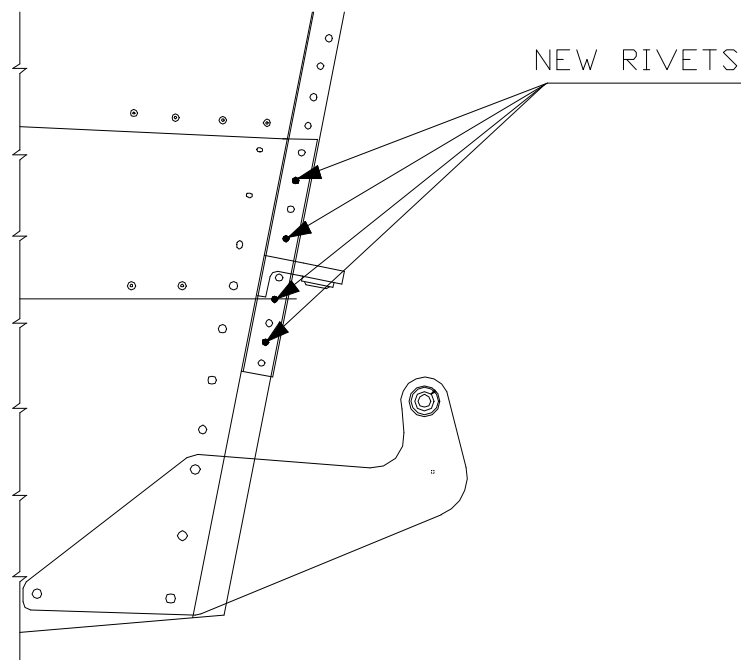

Fig. 2
- D. As outlined in the fig.2, mark some reference for the new rivets.